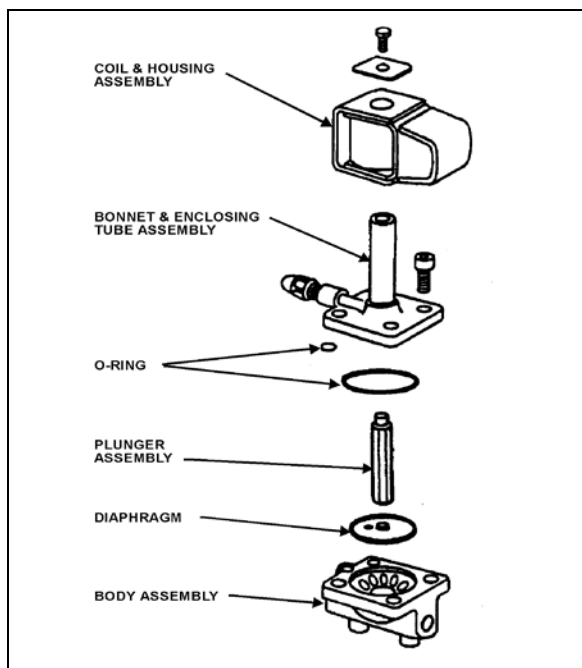

FIGURE 31: REFRIGERANT SOLENOID VALVE 22044
3. Remove the four socket head screws which hold the body and bonnet together (Fig. 31).